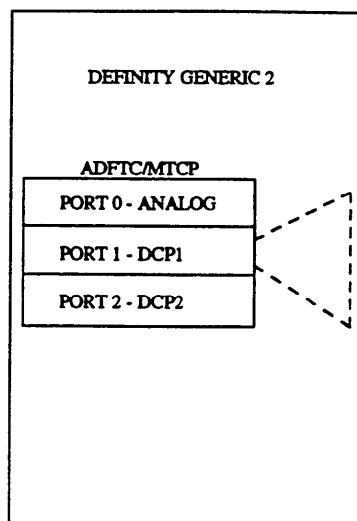

Figure 5-17. Test 1- One Port ADFTC or MTCP Self Test
- A one port test (test type 1) where the switch internally connects port 1 through the switch and back to port 1 on the ADFTC or MTCP, and does a detection test (see Figure 5-17, *Test 1- One Port ADFTC or MTCP Self Test*).
- A two port normal test (test type 2) or a two port reverse test (test type 3), where the switch internally connects port 1 through the switch to port 2 (or from port 2 to port 1 for-the reverse test) on the ADFTC or MTCP and does a detection test (see Figure 5-17, *Test 1- Two Port ADFTC or MTCP Self Tests*).